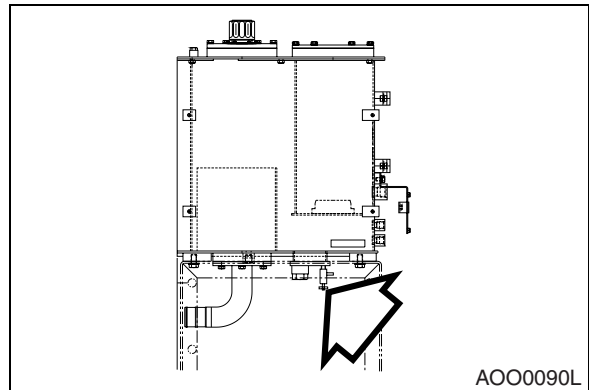

Figure 85
2. Position a catch tank beneath hydraulic reservoir drain plug. Release pressurized air from hydraulic oil tank by rotating air-breather cap. (See Figure 11 on page 4-10). Remove drain plug (Figure 85) from bottom of reservoir. Allow all hydraulic oil to drain out.